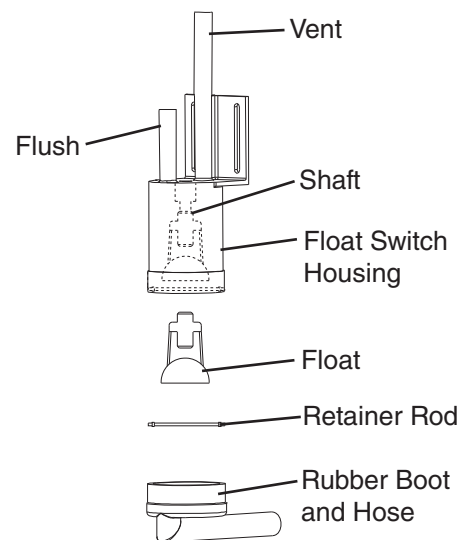

Fig. 9
- 4) Disconnect the vent tube and the flush tube from the top of FS, then remove FS assembly and remove the rubber boot from the bottom of FS assembly. See Fig. 9.